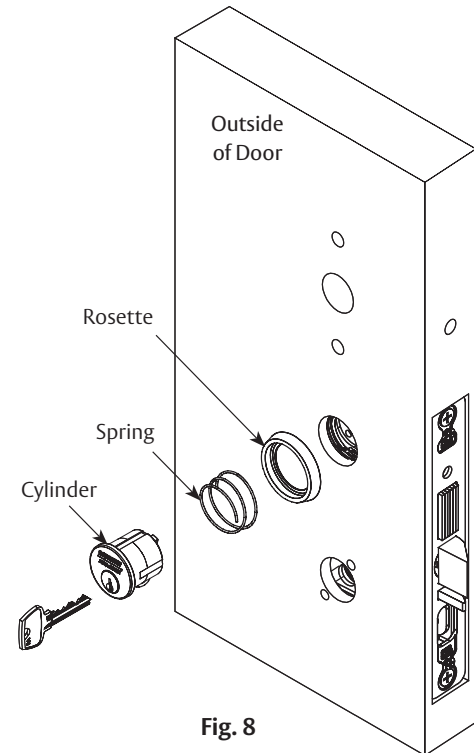

Fig. 8
7. Install outside cylinder. (Figure 8)